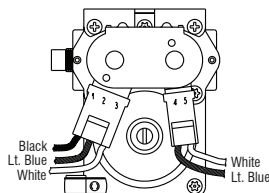

Figure 12 - Measuring gas valve resistance
3. Use an ohmmeter to determine if a gas valve coil has malfunctioned. Remove harness plugs. Measure resistance across the terminals (see figure 12). Readings should match those shown in the following chart; if not, replace coils.